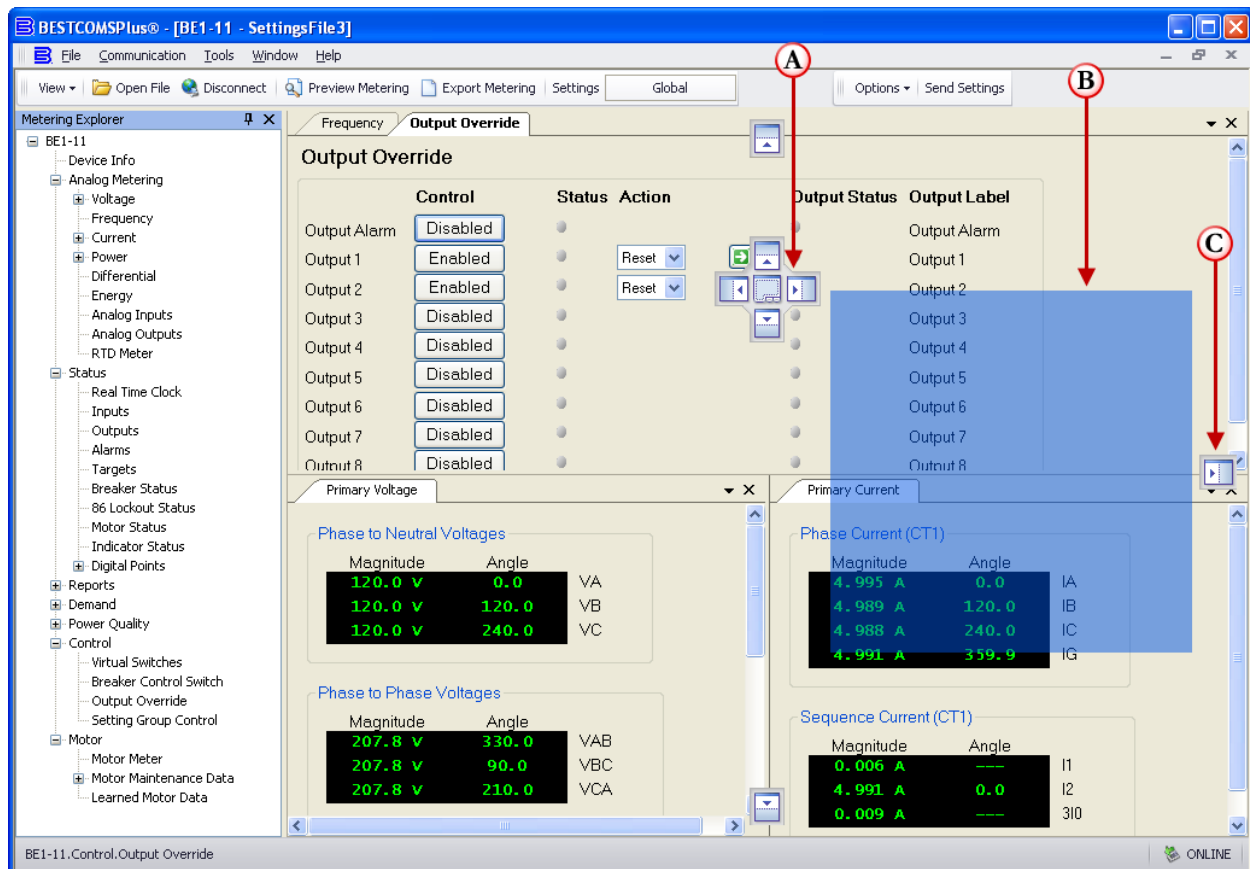

Figure 30-1. Metering, Docking Options
See Figure 30-1. Table 30-1 explains the call-outs in Figure 30-1.
**Table 30-1. Explanation of Figure 30-1 Call-Outs**